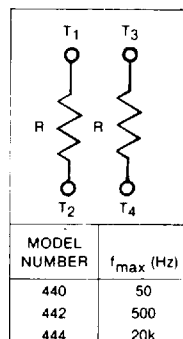

Figure 1
Equation (1) defines the nominal value of each tuning resistor R in Figure 1: